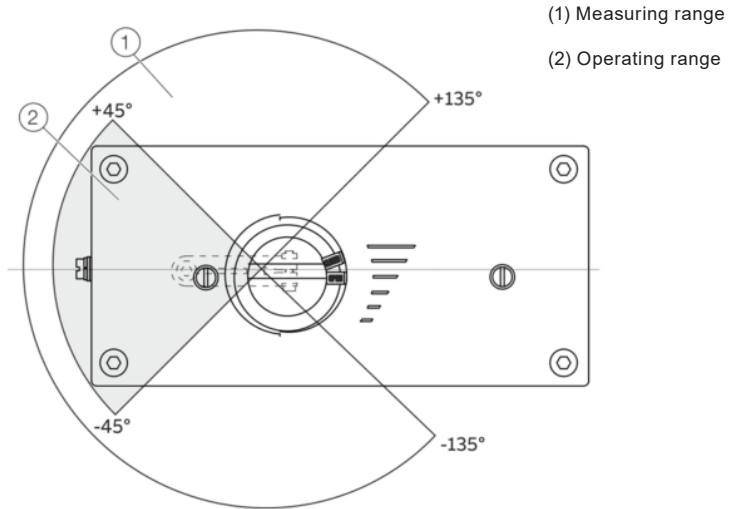
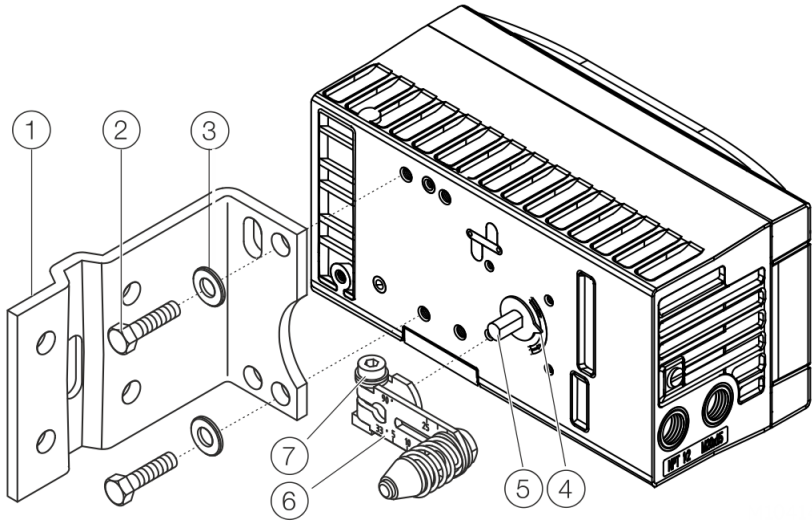

Fig. 3
Fig. 6
1. Attach the lever (6) to the feedback shaft (5) of the positioner (can only be mounted in one position due to the cut shape of the feedback shaft).
2. Using the arrow marks (4), check whether the lever moves within the operating range (between the arrows).
3. Hand-tighten the screw (7) on the lever.
Tighten the screws as evenly as possible to ensure subsequent linearity. Align the mount bracket in the oblong hole to ensure that the operating range is symmetrical. Set the valve mid stroke and align the lever horizontal (item 4 Fig. 6) then tighten mounting bolt (item 4 Fig. 6) (lever moves between the arrow marks Item 4 Fig. 3).